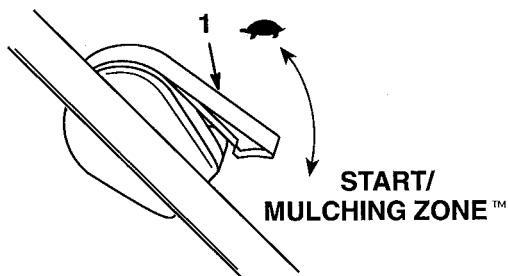

Figure 10
1. Move throttle lever to START/MULCHING ZONE™ position (Fig. 10).
1. Move throttle lever to SLOW position (Fig. 10).